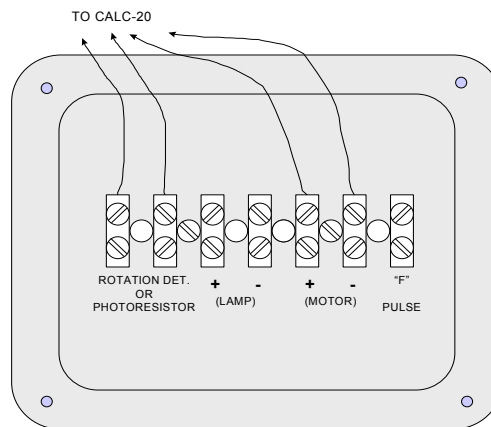

Figure 3-28
- (1) Unscrew the 4 capscrews which secure the terminal plate to the beacon base and tilt the terminal plate down.
- (2) Four wires should already lead from the terminal strip on the cover plate; two for the drive motor and two for the rotation detector, as shown in Figure 3-28.